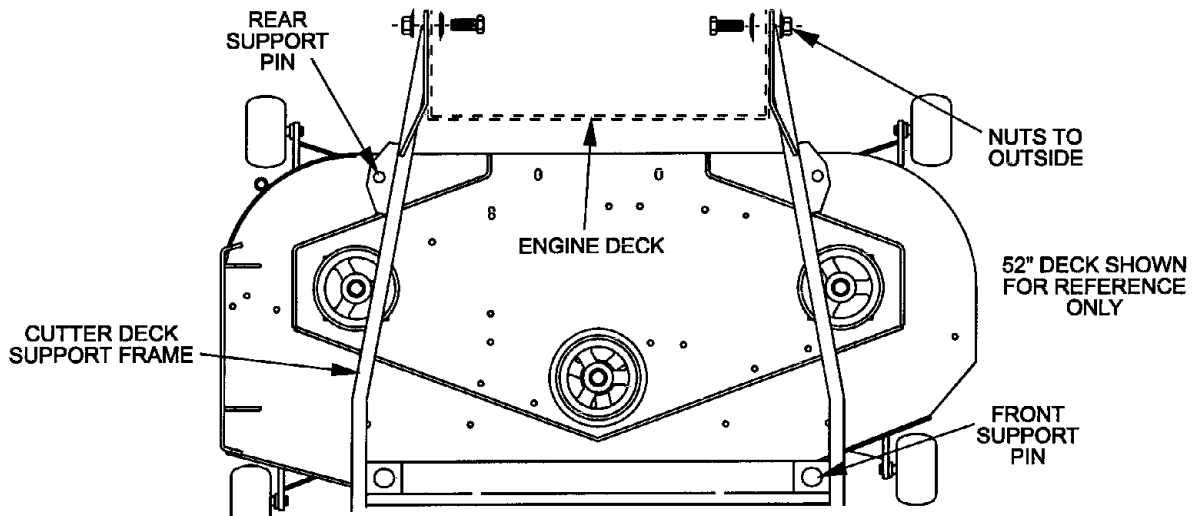

FIG. 2
- 3.3.2 Remove cutter deck support frame from cutter deck by removing the two large hairpins and washers from the front deck support pins and by removing the two small hairpins and washers from the rear deck support pins (See Figure 2).
Align and re-install the cutter deck support pins into the support frame. Install the two large washers and hairpins onto the front support pins and the two smaller hairpins and washers onto the rear support pins (See Figure 2).